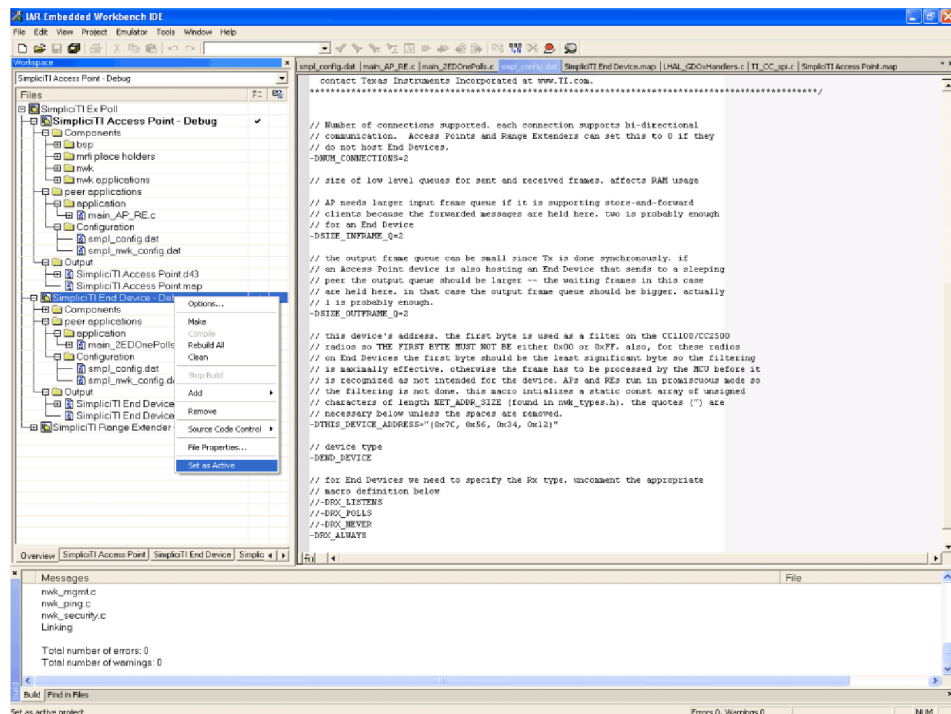

Figure 7. IAR Embedded Workbench KickStart Workspace
- a. Right click on **Access Point** project in the workspace and click **Set as Active** as shown in Figure 7.